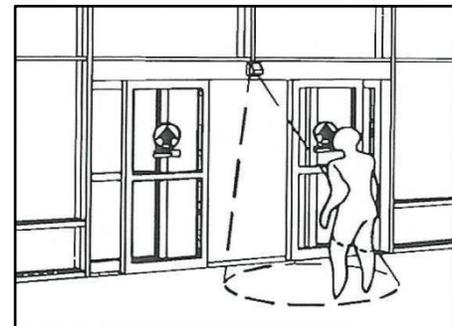

FIGURE 6
1. Check electronic sensor by walking toward the door opening at a moderate speed. The door should start opening when you are about four feet from the door, slide open smoothly, and stop without impact. Repeat on other side of opening. Move slowly through the door opening (6 inches per second). The door should remain open. (See Figures 6 and 7)